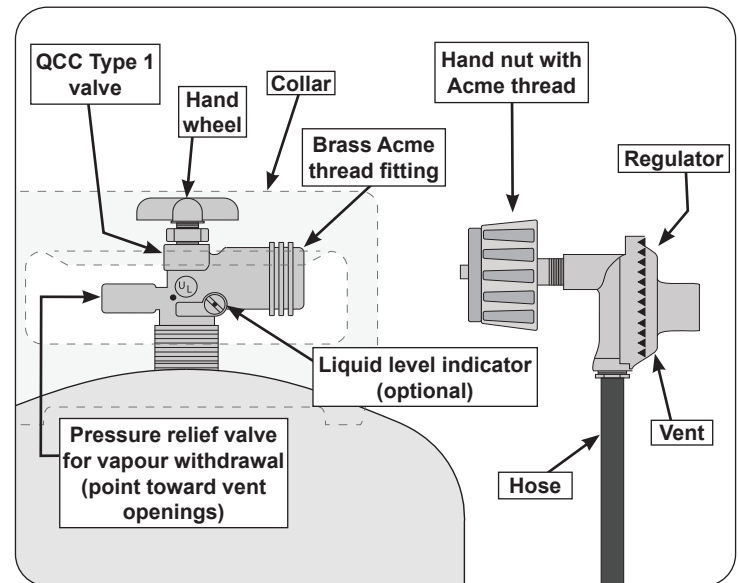

Fig. 9-1 Type I Acme thread coupler
- The cylinder used must include a collar to protect the cylinder valve. The cylinder supply system must be arranged for vapour withdrawal. See Fig. 9-1.
- When used with a cylinder, the gas supply system must be used with a pressure regulator. The pressure regulator and hose assembly (Fig. 9-1) supplied with this outdoor gas appliance (**L.P. models only**) must be used. Original and replacement pressure regulator and hose assemblies must be those specified by the manufacturer for connection with a cylinder connecting device identified as Type I by the ANSI Z 21.58/CGA 1.6 and must comply with UL 144 as a part of the self-contained LP gas supply system (see PARTS LIST for ordering information).
To disconnect: Turn the hand nut counterclockwise until detached (Fig. 9-1).